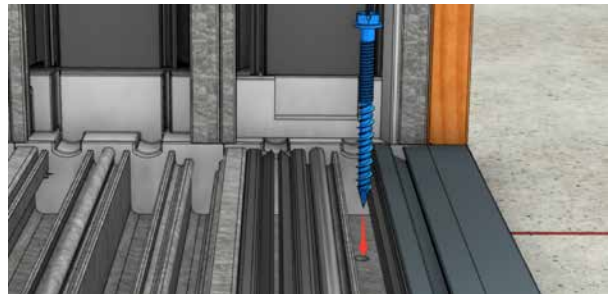

Fig 31
- Fasten the sill through each hole using a minimum of a 2" fastener suited for installation conditions. (Fig. 31)